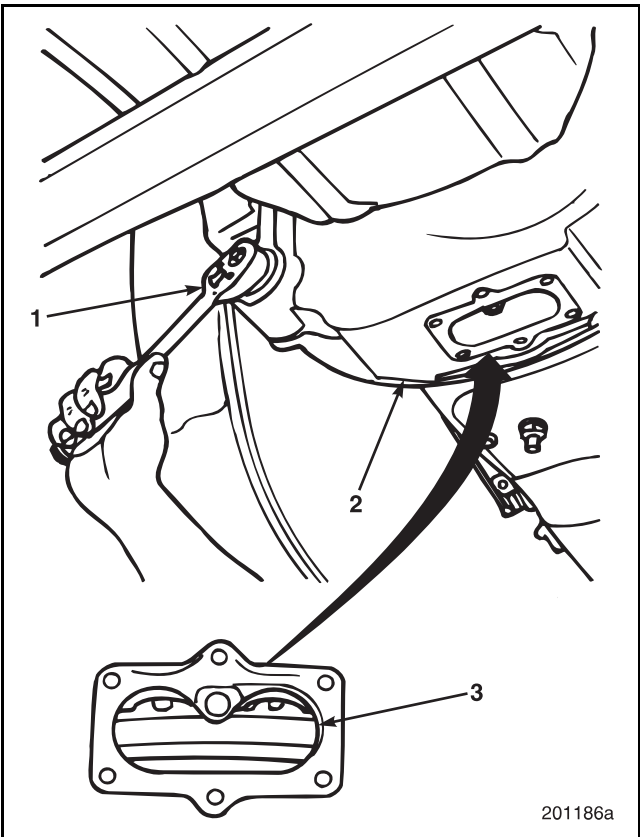

Figure 7-11 — Engine Crankshaft Rotation
1. Using engine barring socket J 38587-A, manually rotate engine in normal rotation direction 120 degrees until pointer in flywheel housing aligns with the "5" mark on the flywheel. The No. 5 piston will be on the compression stroke. If engine is equipped with a pointer on the timing gear cover and marks on the vibration damper, rotate the engine until the pointer marked VALVE aligns with the "5" mark on the vibration damper. Refer to Figure 7-11.